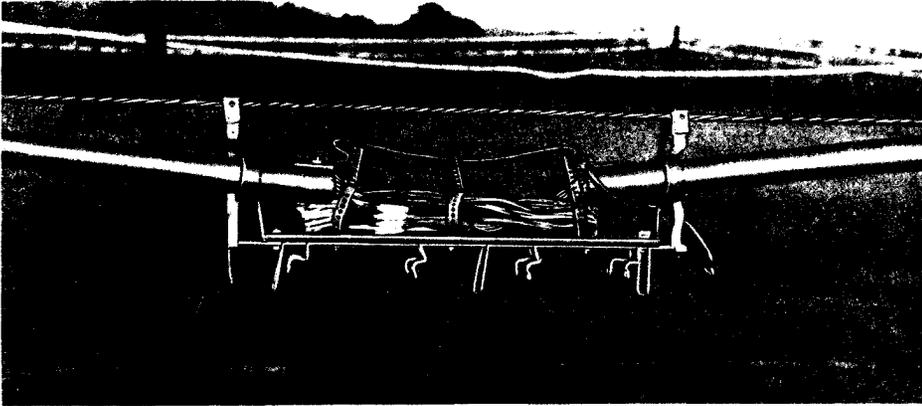

Fig. 12—Completed Splice
5.06 Perform splicing operation as required and dress flexible bond strap by stretching it tight across the center and forming nearly equal loops at each end (Fig. 12).